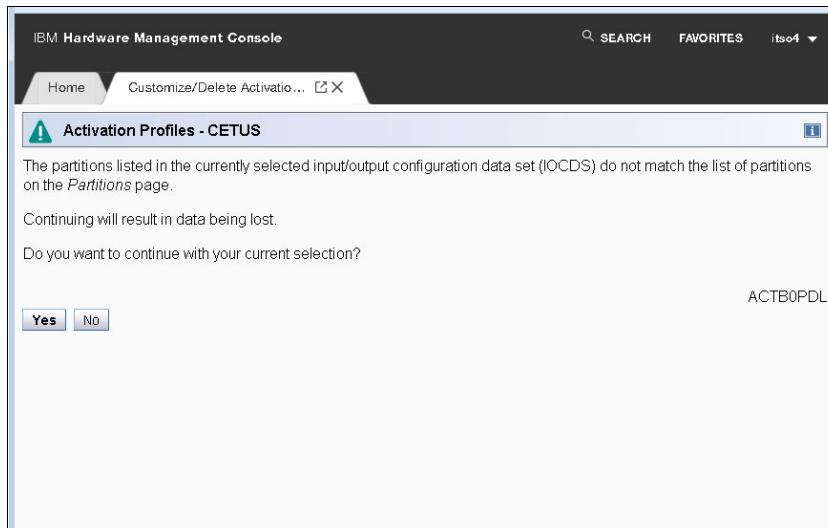

Figure 5-18 Activation Profiles: ACTB0PDL message
- Click the IOCDs that you updated in the previous step. The ACTB0PDL message is displayed (Figure 5-18).